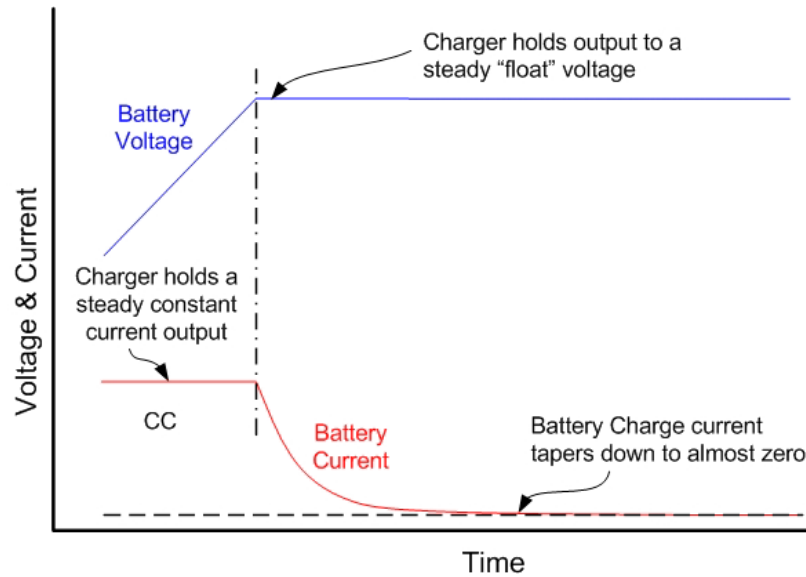

Figure 6 Battery Voltage and Current During Recharge
For ALM 12V7 s-Series batteries operating under normal conditions during a charge, a charger applies a constant current (CC) until the terminal voltage reaches its end of charge voltage (maximum), as shown in Figure 6 on page 34. This process is followed by a float voltage, where the charge current decays to near zero. As the battery approaches 100% State of Charge (SOC), the balancing circuitry performs cell balancing. This process charges the ALM 12V7 s-Series battery to 100% State of Charge (SOC).